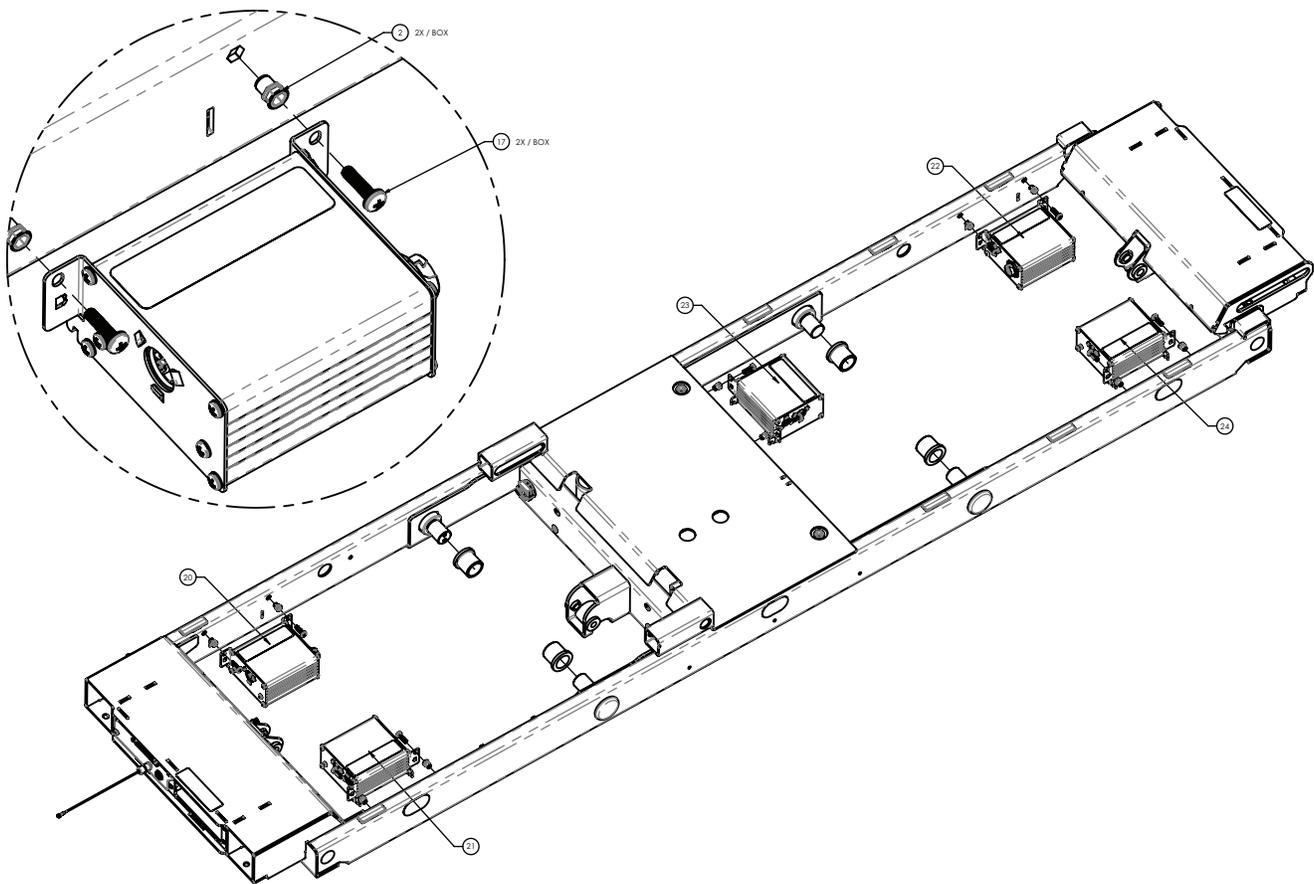

Figure 13 – ACB replacement
9. Using a #2 Phillips screwdriver, remove and save the two screws (17) that secure the ACB assembly (23) to the litter frame (Figure 13).
10. Lift upward on the ACB assembly (23) and unkey from the litter frame.
13. Using a #2 Phillips screwdriver, remove and save the two screws (9) that secure the ACB (5) to the ACB box (Figure 13).